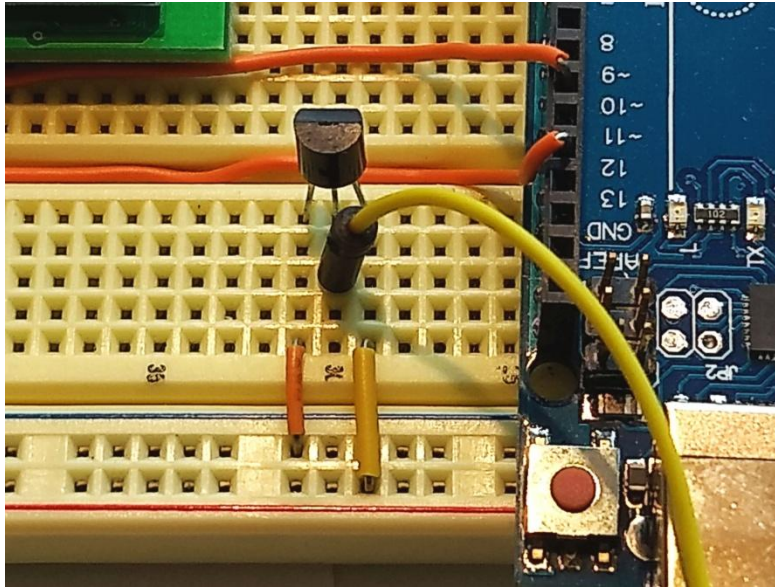

Figure 3. Sensors and jump wires installed.
2. Connect hole I31 to the ground with an orange jump wire, then connect hole I29 to power with a yellow jump wire, as shown in Figure 3
2. Connect the flexible jump wire to the Atmega, as shown in Figure 3.